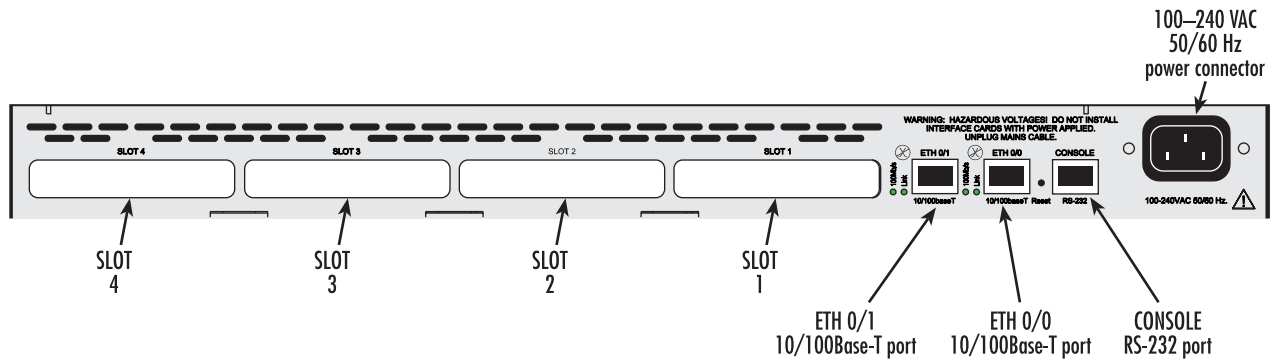

Figure 71. SmartNode 2400 connectors
1. Installing the 10Base-T or 100Base-T Ethernet cables into ports *ETH 0/1* and *ETH 0/0* (see figure 71) (see “Installing the Ethernet cables” on page 115).
1. Insert the barrel type connector end of the AC power cord into the 100–240 VAC power connector (see figure 71).